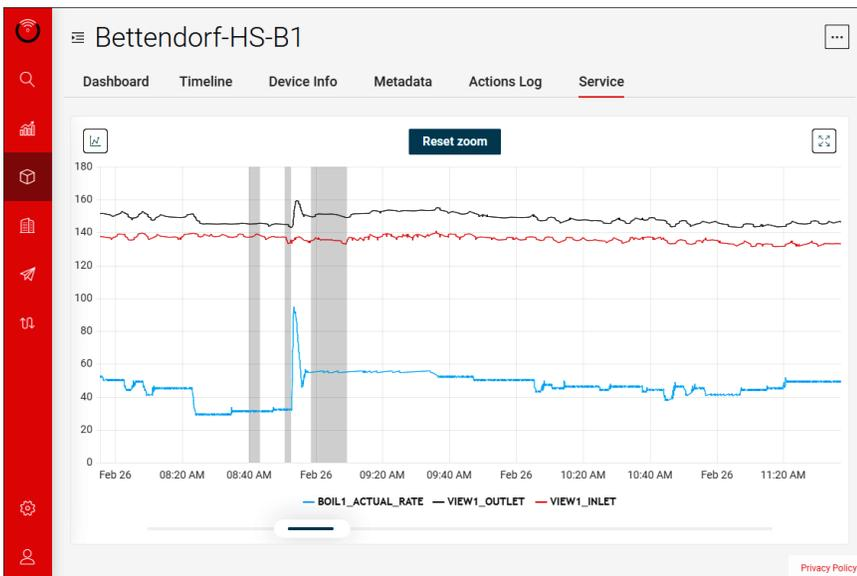

Figure 82. Zoom Reset Function
8. Graph will update in the specified time frame. A “Reset zoom” button will become available on top of the graph to go back. See **Figure 82**.